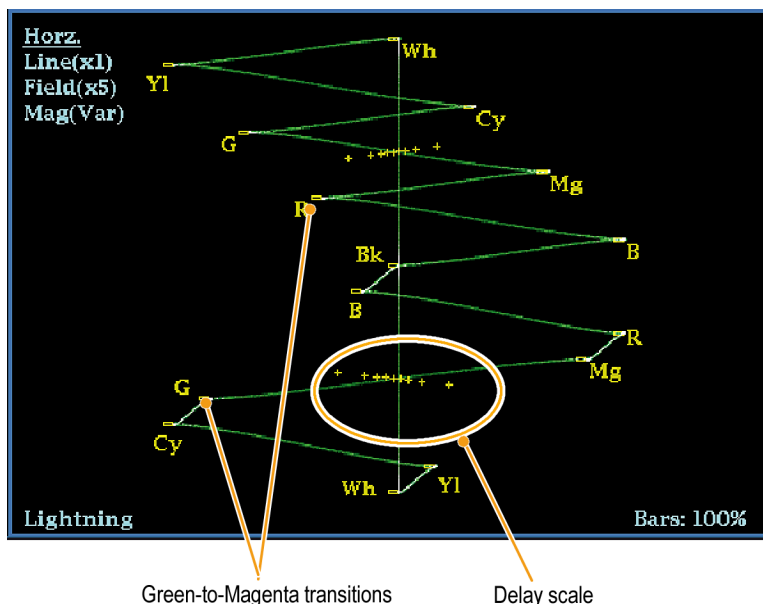

Figure 62: Determining transition intersections in the Lightning display
7. Determine where transitions intersect the delay scales and derive the timing error in nanoseconds, as deflected from the center mark, using the following guidelines. (See Figure 62.)